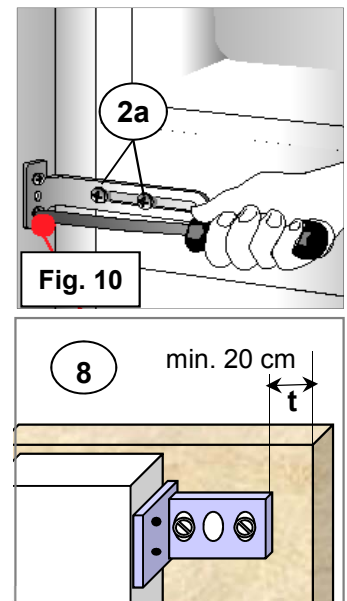

Fig. 10
1. Install the top fitting (1) with 3 screws 1a to top of appliance housing.
2. Then install the lower fittings (Fig. 10) with 2 screws 2a at the bottom of the appliance housing.
7. Secure appliance with the lower fittings on left and right sides to the cabinet (Fig. 10)